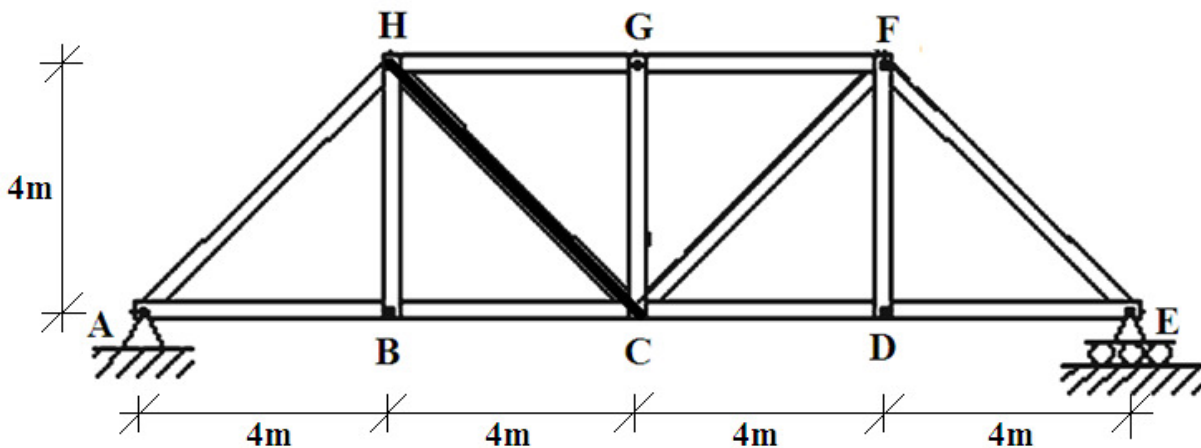

Figure Q1C
- (iii) Construct the influence line for truss member CH in the truss of Figure Q1C. (Use the Method of Sections to obtain the truss member forces). [10]